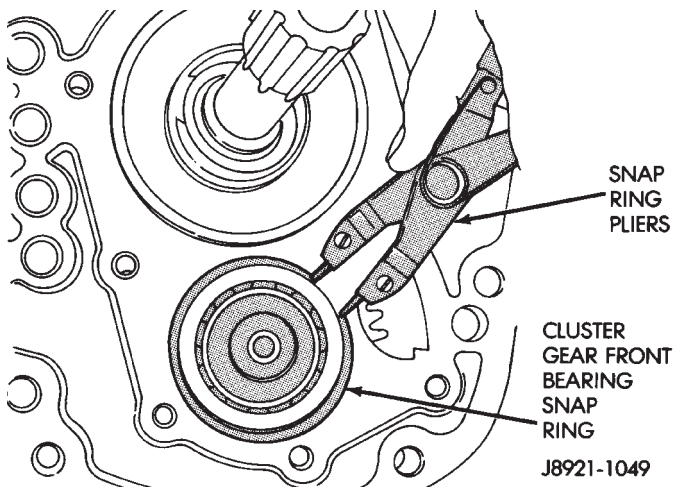

Fig. 33 Remove Cluster Gear Snap-ring
(22) Remove cluster gear bearing snap-ring (Fig. 33).